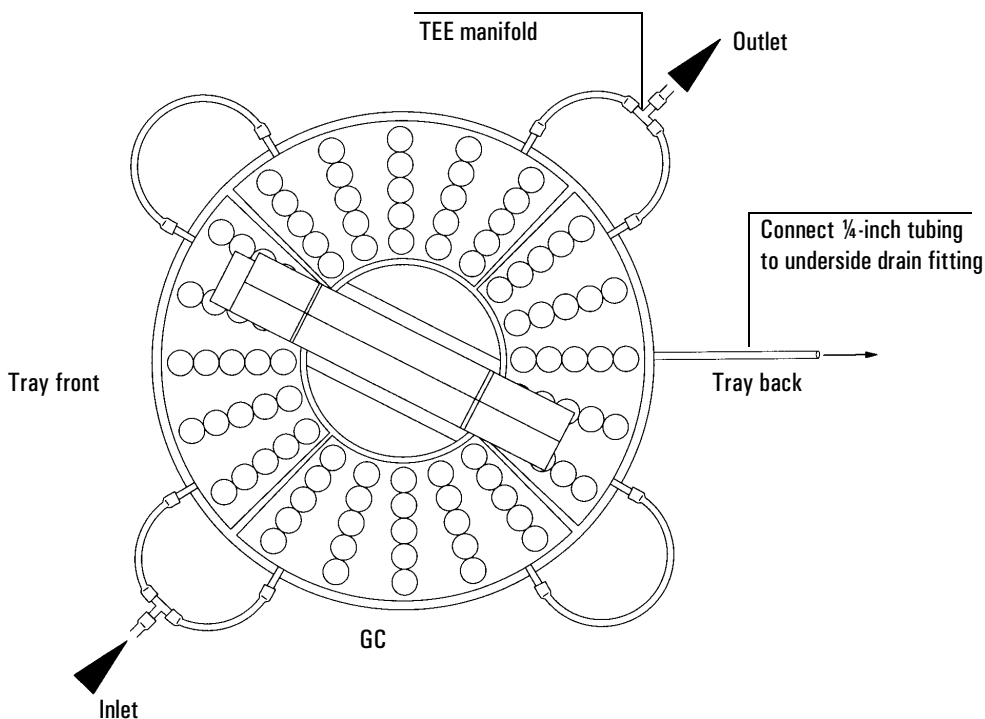

Figure 12 Tray quadrant plumbing
2. Connect the tray quadrants together using 1/4-inch id (6.35 mm) tubing as shown in Figure 12.